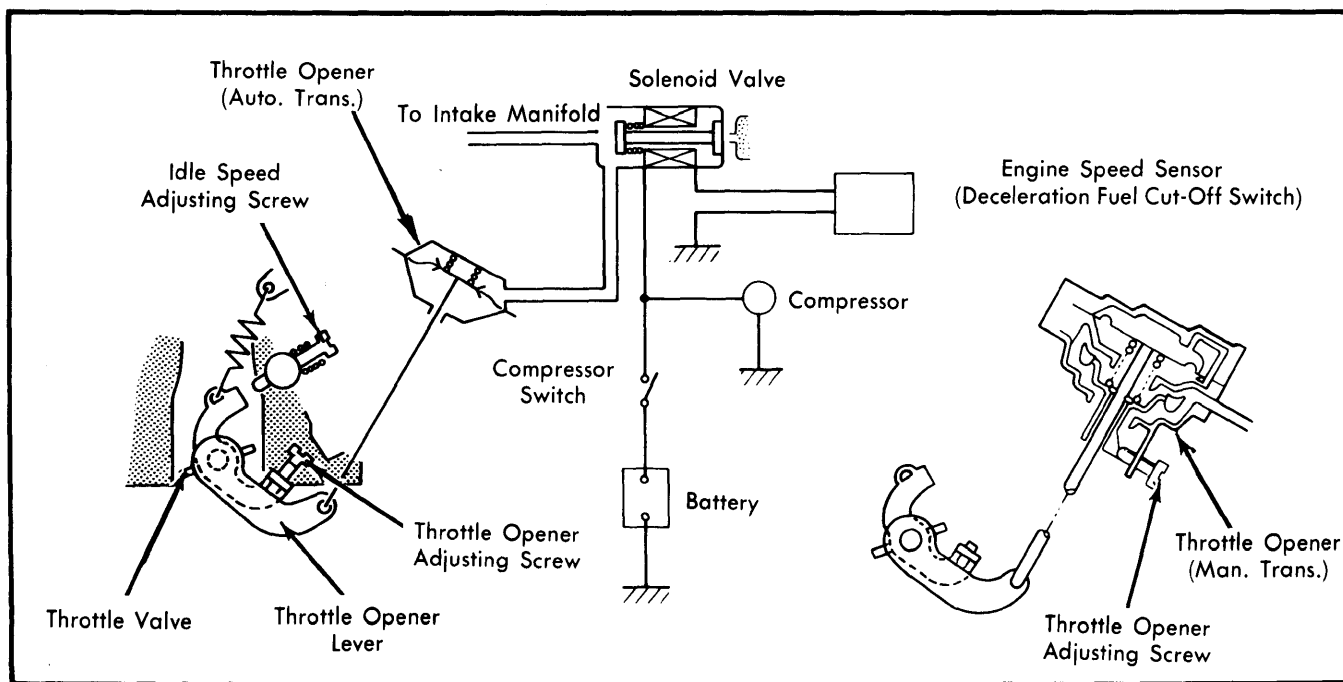

Fig. 1 Throttle Opener System
- 2) Activate throttle opener (air conditioning "ON") and adjust throttle opener speed to specified RPM shown in table by turning throttle opener adjusting screw. See Fig. 1.